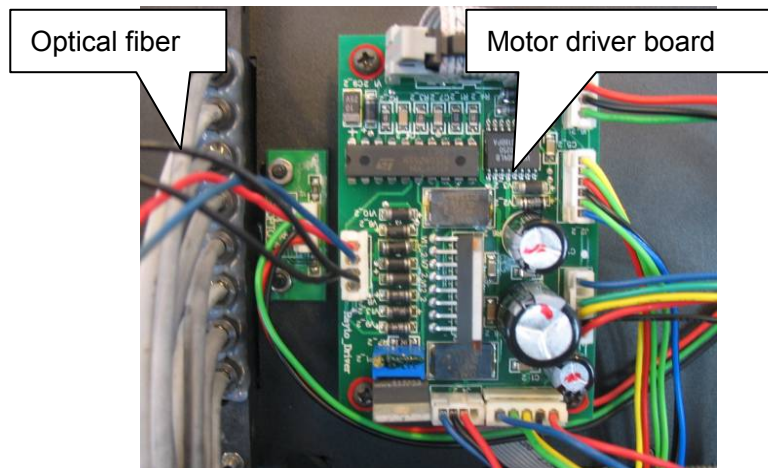

Figure 3-42
- 3、Remove the two hex screws which fix the platform, lift the platform carefully (pay attention not to pull the optical fiber), then you can see the motor driver board, as shown in figure 3-42.